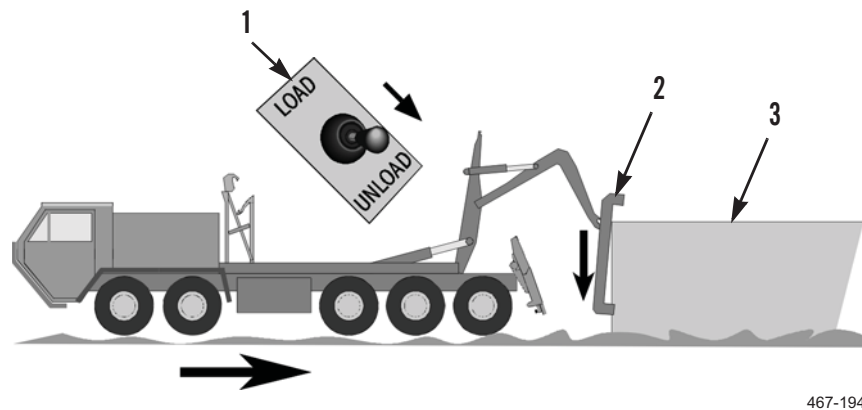

Figure 2. Lower Lift Frame to Container.
- Keeping engine at idling speed, set joystick (Figure 2, Item 1) to UNLOAD and move vehicle as required to ensure upper locating pins on lift frame (Figure 2, Item 2) fully descend into upper corner castings of container (Figure 2, Item 3). Top plates of upper guides should be in contact with corner castings.